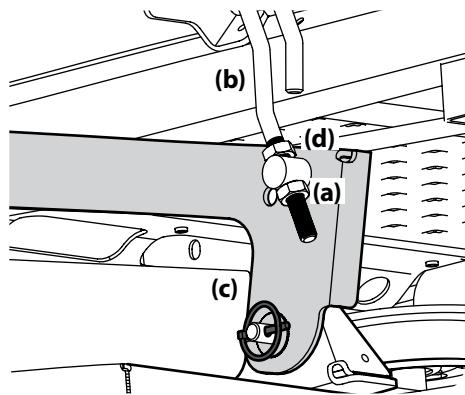

Figure 4-6
- Loosen the lower jam nut (a) on the adjustable lift link (b) attached to the deck lift arm (c) to lower the deck and tighten the upper jam nut (d) to secure the deck in place, loosen the upper jam nut (d) then tighten the lower jam nut (a) to raise the deck and secure the deck in place. See Figure 4-6.